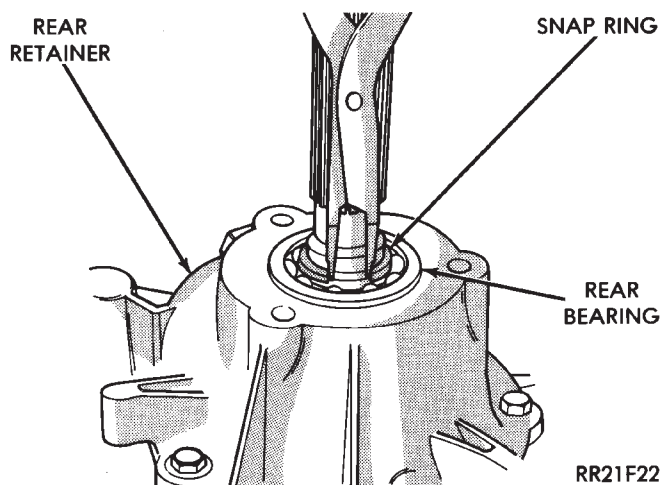
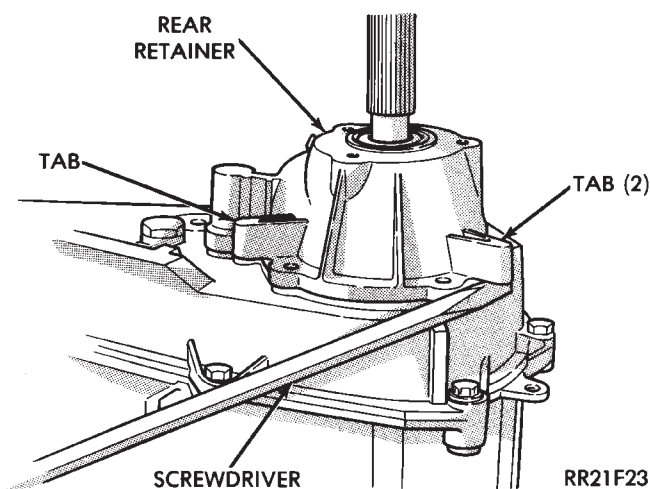

Fig. 2 Rear Bearing Snap Ring Removal
Fig. 3 Rear Retainer Removal
- (6) Remove rear bearing snap ring (Fig. 2).
- (7) Remove rear retainer attaching bolts.
- (8) Remove rear retainer. Position screwdriver under each tab on retainer housing (Fig. 3). Then carefully pry retainer upward and off rear case.